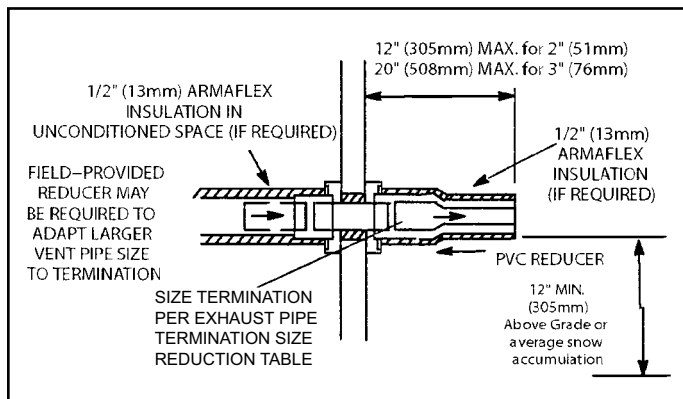

Figure 41. Non-Direct Vent Field Supplied Wall Termination
2. On field supplied terminations for side wall exit, exhaust piping may extend a maximum of 12 inches (305 mm) for 2" PVC and 20" (508 mm) for 3" PVC beyond the outside wall. See Figure 41.